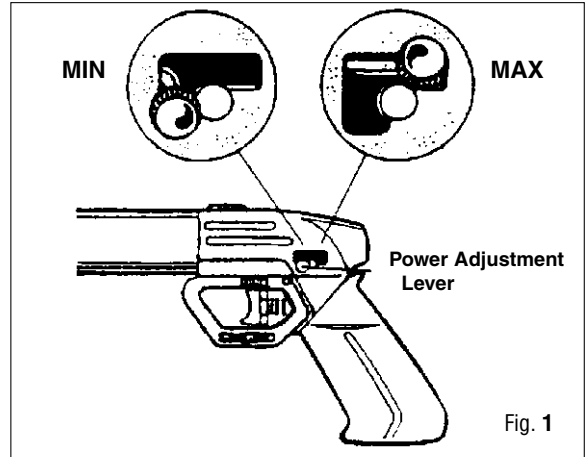

Fig. 1
ALWAYS EXHAUST ALL AIR FROM THE SPEARGUN WITH THE POWER ADJUSTMENT LEVER IN THE MAXIMUM "HIGH" POWER POSITION BEFORE PERFORMING ANY MAINTENANCE OR REPAIRS REQUIRING DISASSEMBLY (FIG. 1). FAILURE TO EXHAUST ALL AIR FROM THE SPEARGUN IN THE MAXIMUM "HIGH" POWER POSITION CAN CAUSE PARTS TO BE EXPELLED FROM THE SPEARGUN AT HIGH VELOCITY WHICH MAY CAUSE SERIOUS INJURY OR DEATH.
3. Set the power adjustment lever (38) to maximum "high" power position (Fig. 1).